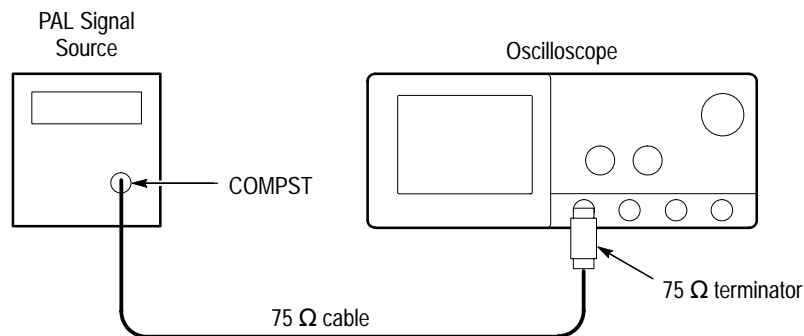

Figure 1–26: Jitter test hookup
- a. Set up equipment for Jitter Test. See Figure 1–26.
- b. CHECK that the oscilloscope lights up its front panel **TRIG'D** LED and it displays the waveform on screen. See Figure 1–27.